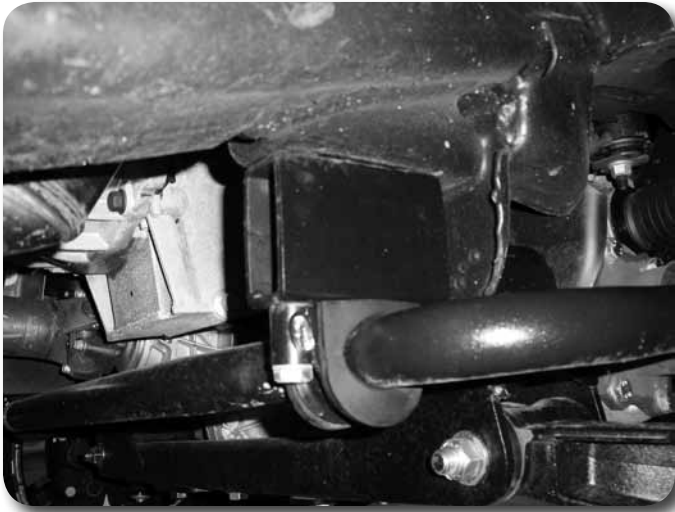

Figure 40
70. Attach the front sway bar to the original mounts in the stock orientation in conjunction with the provided drop brackets and 10mm x 130mm bolts/washers. Use Loctite on the bolt threads and torque to 45 ft-lbs **Figure 40**.